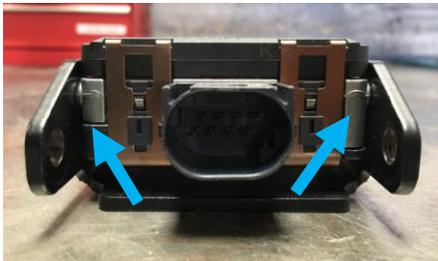

Figure 8a: Acceptable Sensor Engagement
9. Verify proper engagement of the sensor with the carriage as shown in Figure 8a & 8b.